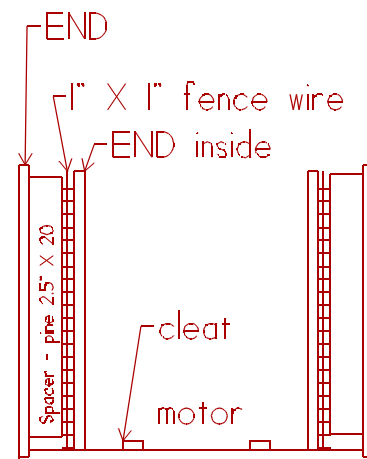

Figure 2: Side View.
rabbet of the sides. Center the fan hood in the box and attach cleats on each side of the fan at the bottom of the box (Fig. 2). The fan or fan hood need not be attached to the fan housing box. Notice the strips of pine on the side of the fan hood. They are there for support of the filter lids and are not covered up by the "Top Center" piece with holes for air passage.
8. The next step (see Figure 2) is to attach the inside end to the spacer with 2" inch screws with the fence wire held between them. The inside ends should fit loosely inside the box allowing for paint and ease of removal, if needed. The spacers are attached to the inside ends with enough room between them to let a filter (16"x20"x2") slide between them. This construction is then attached to the end piece with screws and no glue.